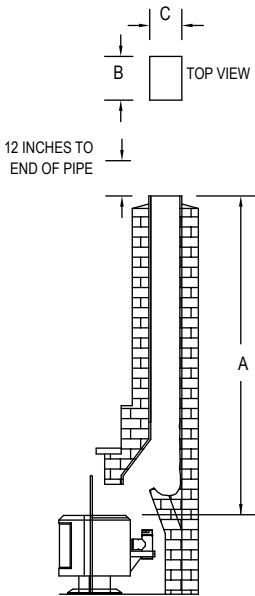

Figure 8
3. Measure and record the dimensions as shown in **Figure 8**. 4. Use dimension "A" to determine total pipe requirements. Add 12 additional inches to insure the termination is an adequate distance above the roofline.